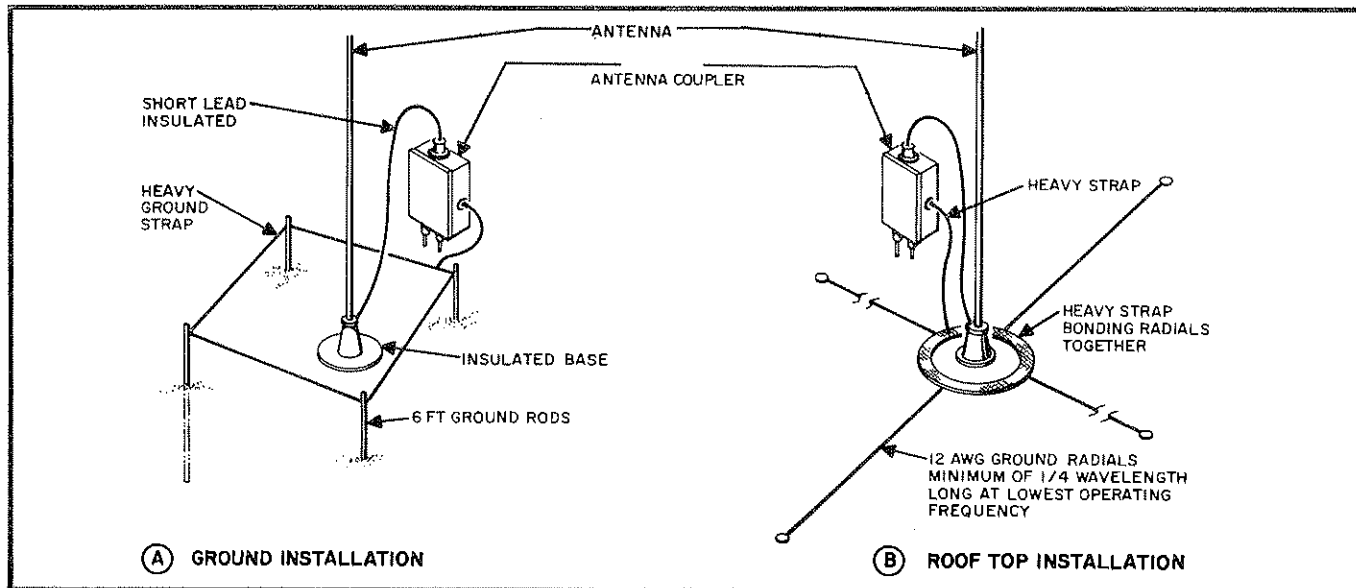

Figure 2.7 Whip Antenna
- c. When using whip antennas, the ground system actually forms part of the radiating system. Where space permits (such as in a base station installation) a good ground plane or radial system should be installed at the base of the antenna. (See Figure 2.7)
Whips and long wires are popular non resonant antennas. The whip antenna (illustrated in Figure 2.7) is often used in mobile, marine, portable or semi portable installations because it is rugged and self supporting. The antenna impedance is strongly dependent on the operating frequency and an antenna coupler, therefore, must be used to match the antenna to the transceiver. Best radiation efficiency will be obtained if the antenna is at least 1/8 wavelength long at the lowest operating frequency; however, this requirement does not result in a practical size antenna for low frequency operation. Thirty-five foot whip antennas offer a good compromise between practical height and good electrical performance at low frequencies. The Antenna Couplers are designed to efficiently match whip antennas of 15 foot length or greater. An efficient match may also be obtained for a 9 foot whip above 4 MHz. The whip's performance is greatly influenced by its ground system. For temporary base station installations, a minimum of four six foot long ground rods should be driven into the ground symmetrically placed around the antenna base. The rods should be bonded together with heavy strap and then connected to the antenna coupler ground by another short heavy strap. If the antenna is mounted on the roof of a building, where a short ground lead to the coupler cannot be obtained, a minimum of 4 symmetrically placed